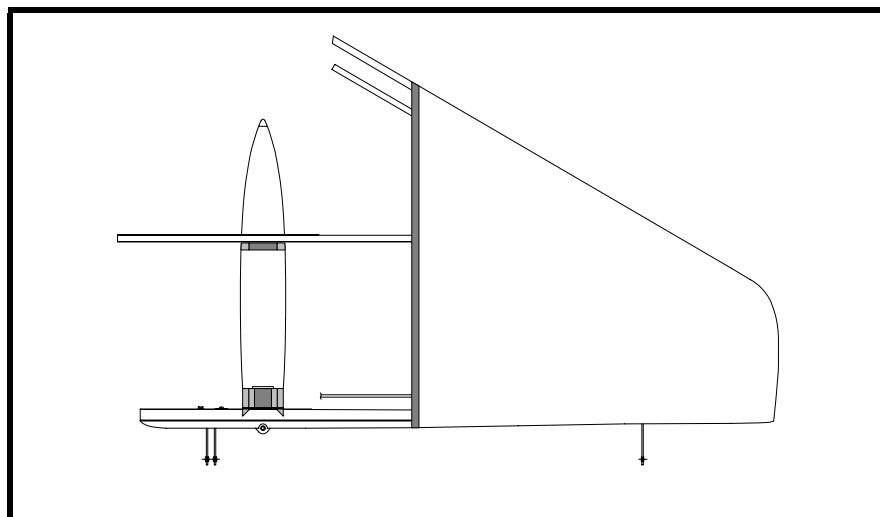

Figure 12
- ❑ Fit the skins to the fin. The skins will extend from the top of the fin to the rib at Sta. 2. See Figure 12. Leave extra material at the tip of the fin for bending. Use small nails as alignment pins.
- ☐ Glue on the right skin. See Figure 12. This skin will extend from the top of the fin to the rib at Sta. 2. Scuff-sand the plywood before gluing.